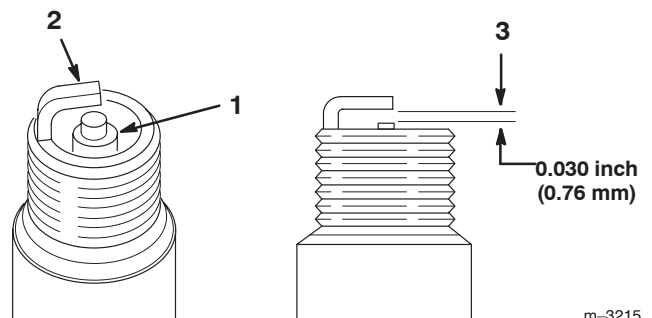

Figure 59
- Look at the center of the spark plugs (Fig. 59).
- Check the gap between the center and side electrodes (Fig. 59) and bend the side electrode, if the gap is not correct.